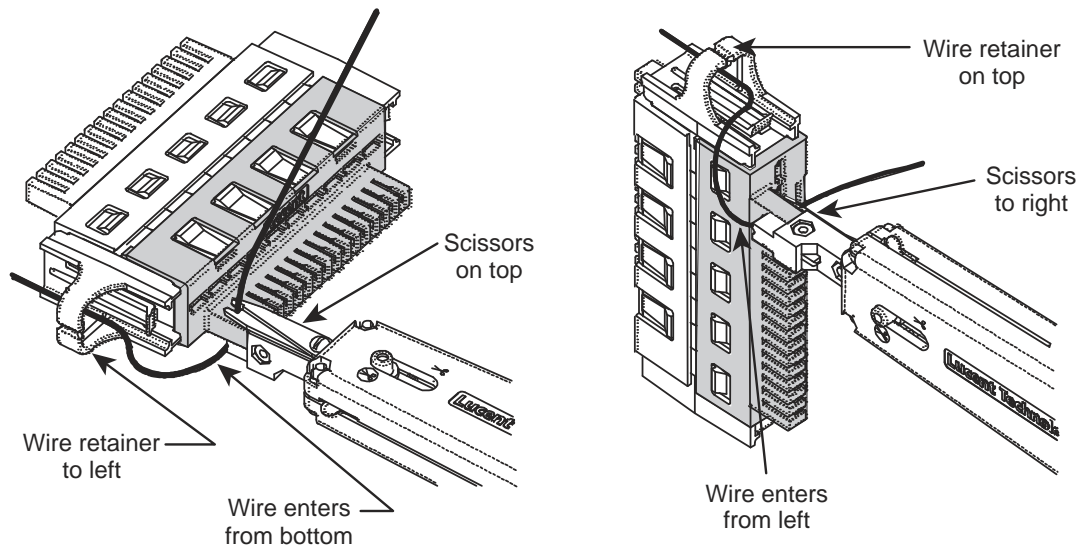
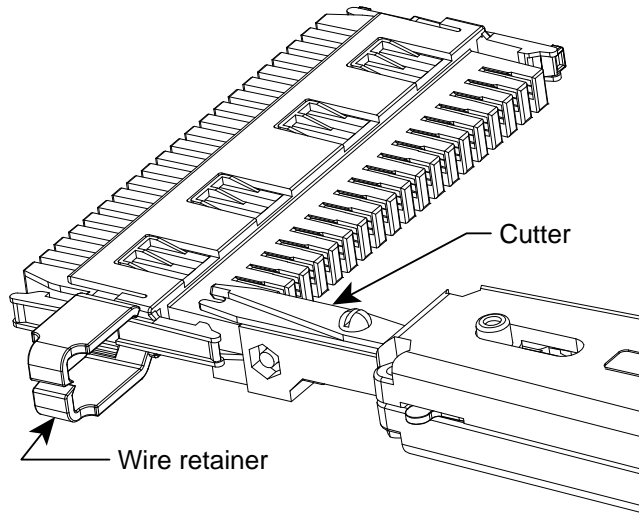

Figure 2. Install Conductors with Wire Insertion Tool
Figure 3. High Density Module
- Using the wire insertion tool, install the conductors in place by firmly pressing the conductors with the wire insertion tool. Refer to Figure 2 for protected modules and Figure 3 for high density modules.